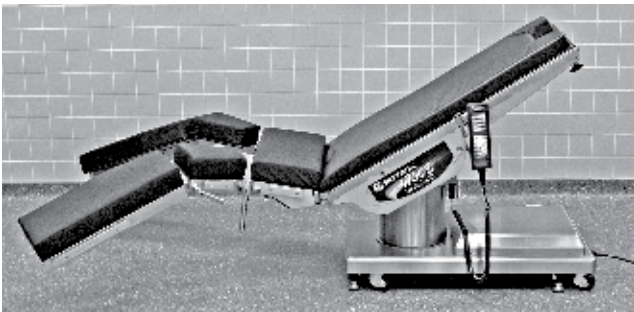

Figure 13. Final Position
2. Bring the table into full REVERSE TRENDLENBURG and full LEG UP to maximize surgeon approach and patient safety (Figure 13).